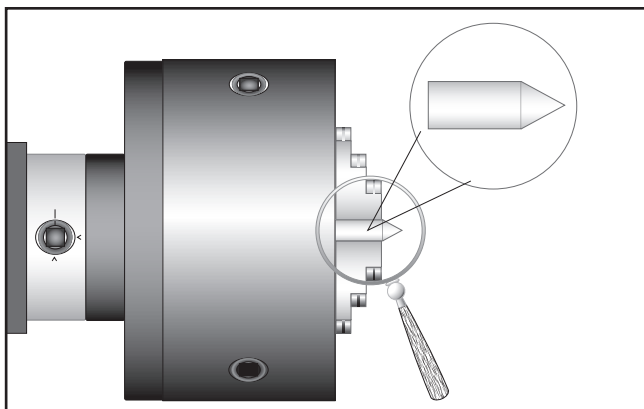

Figure 37. Finished dead center.
2. Make a dead center by turning a shoulder to make a shank. Flip the piece over in the chuck and turn a 60° point (see **Figure 37**). As long as it remains in the chuck, the point of your center will be accurate to the spindle axis.